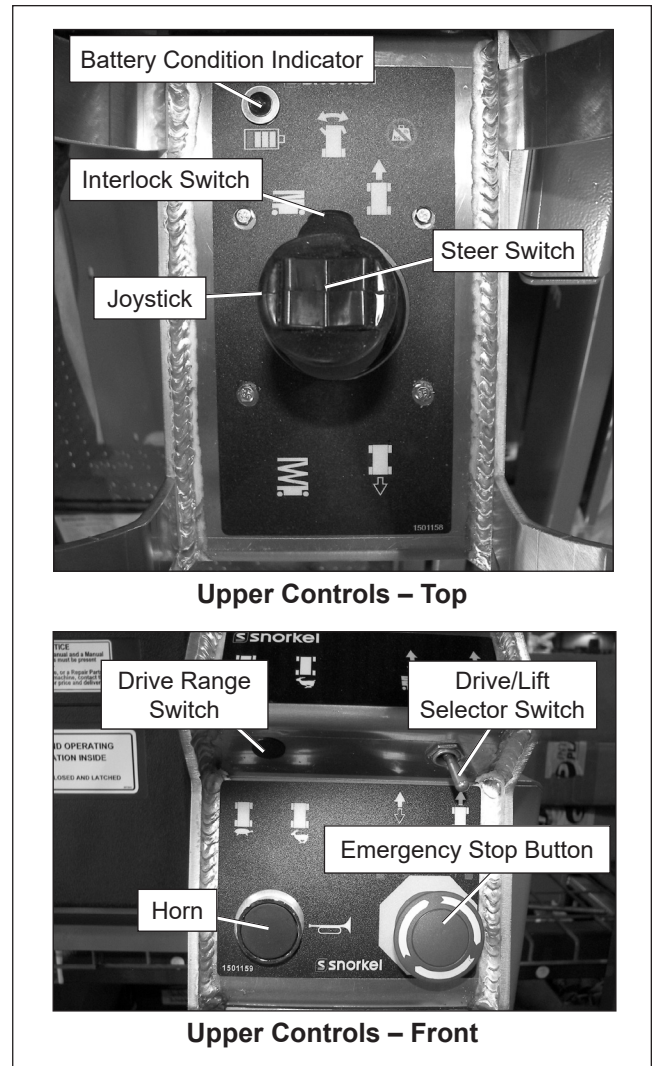

Figure 8.21 – Upper Controls
4. At the upper controls (refer to Figure 8.21), pull the emergency stop button outward.
The horn is operational when the machine is set up for operation from the upper control panel (refer to Figure 8.21).